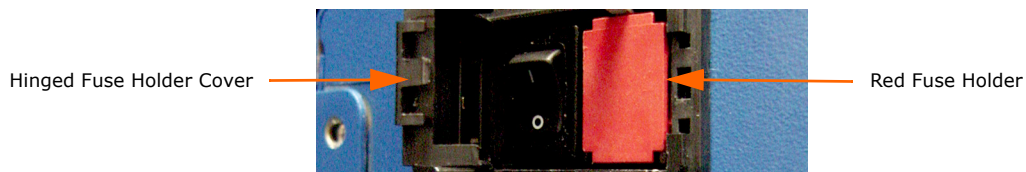

Figure 4-11. Loosening the Red Fuse Holder
4. Open the hinged fuse holder cover and then loosen the red slide-out fuse holder by carefully prying in the notch on the right side of the holder with a small standard (flat blade) screwdriver. See Figure 4-11: